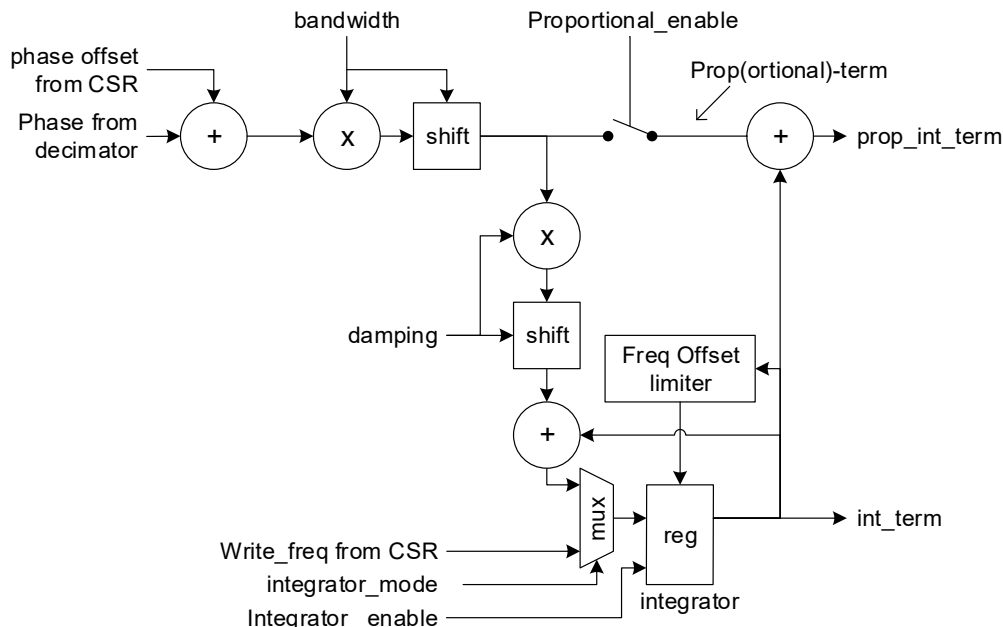

Figure 16. Loop Filter Block Diagram
The digital loop filter is a Proportional - Integrator (PI) type filter as shown in Figure 16. It is programmable to a bandwidth of approximately 0.1Hz to 12kHz.